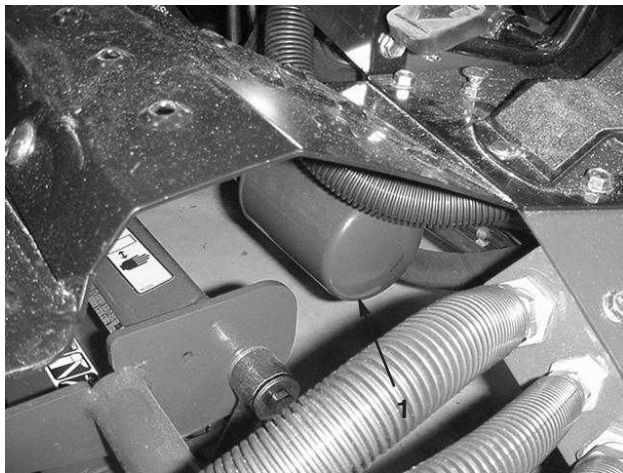

Figure 50
3. Clean the area around the hydraulic oil filter (Fig. 50). Remove the filter from the bottom of the filter housing and allow the oil to flow into a drain pan. Use a bottom type filter wrench. Dispose of the oil filter properly.